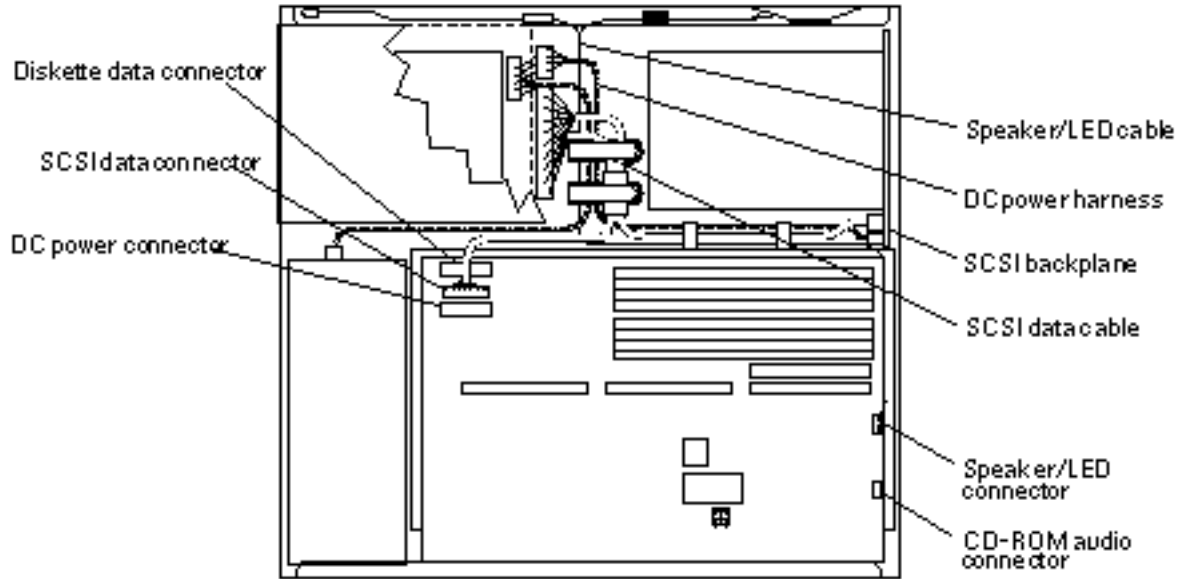

Figure 11-18 System Board Cable Connections
- 7. Unplug the DC power, SCSI data, diskette data, speaker/LED, and CD-ROM audio cables from the system board (See Figure 11-18).**
See Figure 11-18.